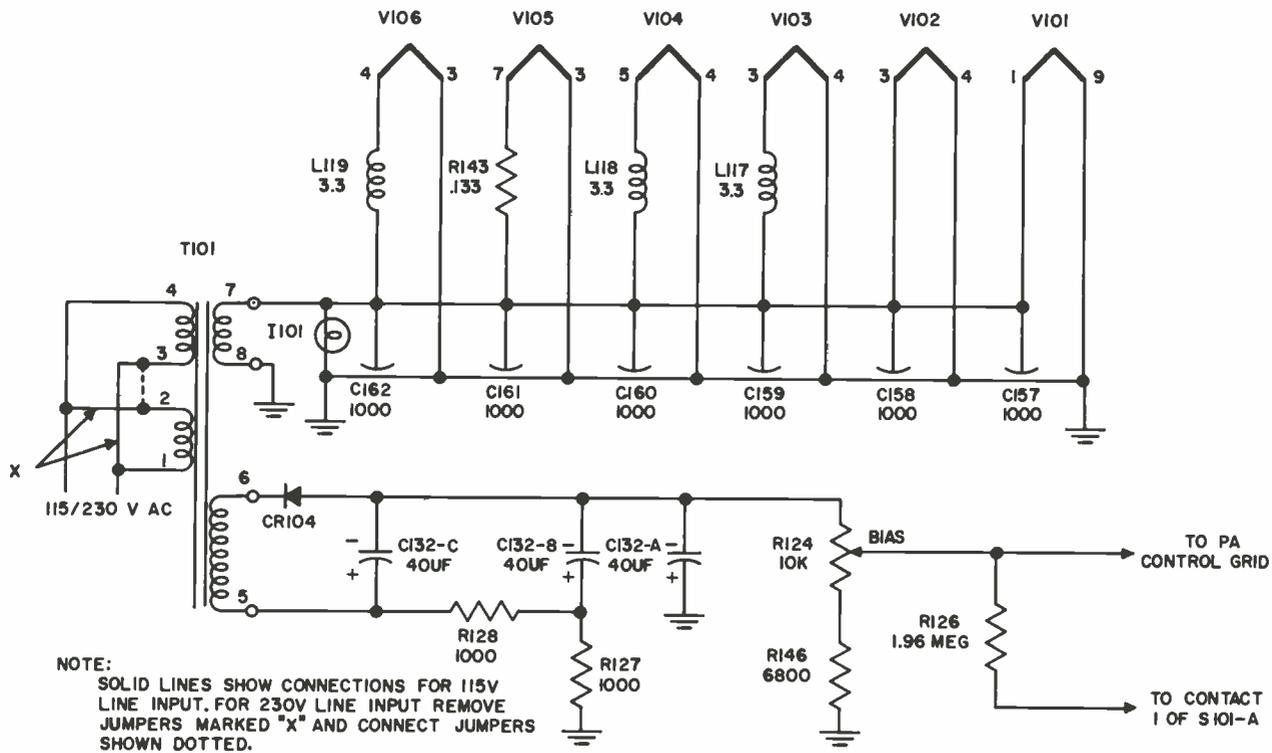

Figure 4-7. R-F Filament and Power Amplifier Bias Power Supplies
4.3.1.8 R-F FILAMENT AND PA BIAS POWER SUPPLIES. (Refer to figure 4-7.) The primary of T101 is shown with its two windings in parallel for 115 volts a-c input. By removing jumpers marked "X" and adding the jumper shown by the dotted line, the two windings can be connected in series for 230 volts a-c line input. The filament voltage for all tubes in the r-f unit is supplied by one winding of the secondary of T101. The AC LINE indicator lamp I101 and all filaments are connected in parallel.